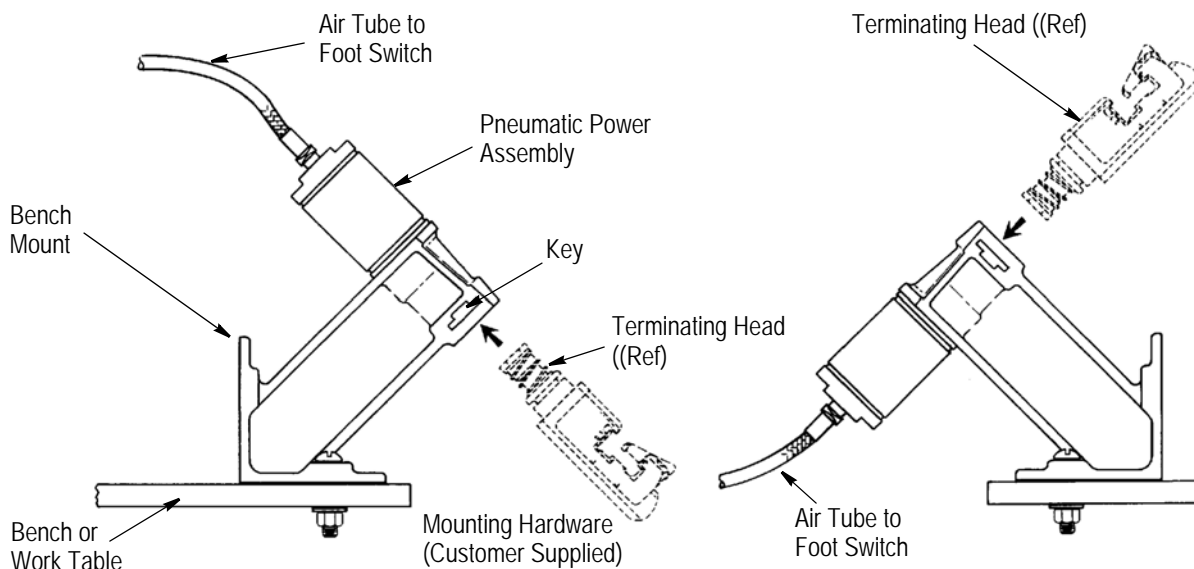
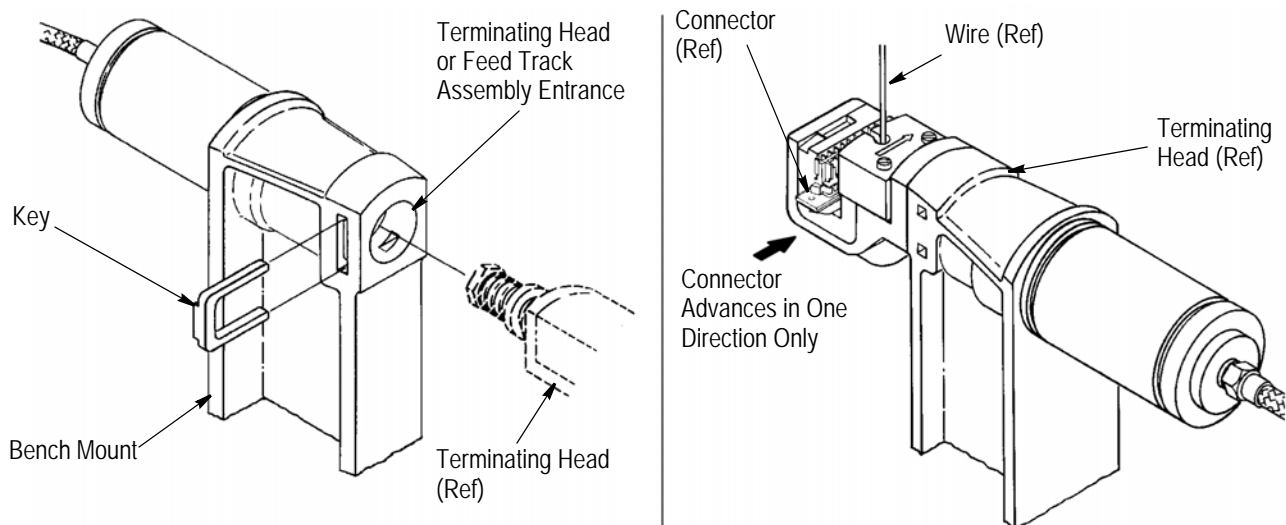

Figure 2
Figure 4
3. DESCRIPTION (see Figure 2)
The bench mount is designed to be mounted in either of the two positions shown in Figure 2. Orientation of the bench mount depends on operator preference and the desired eject direction of terminated connector (refer to Figure 4). Install the bench mount as follows:
3. Insert the terminating head or feed track assembly into the head entrance of the power assembly body until it bottoms. See Figure 4.
from air supply, remove the key, and pull the terminating head or feed track assembly out of the power assembly. Refer to Figure 4